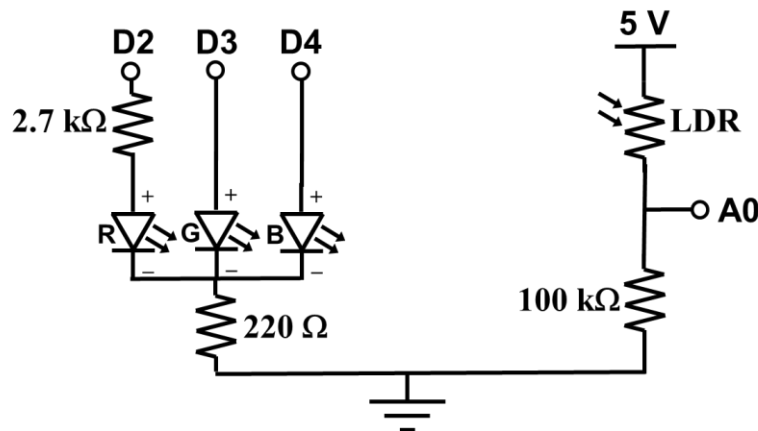

Figure 2. Colour sensor circuit consists of an LDR, a RGB LED and an Arduino Uno (ports shown).
Based on this principle, we will build a simple colour sensor which consists of an LDR, a tri-colour RGB LED lamp and an Arduino Uno, as shown in Figure 2. At intervals apart, the Arduino turns on one colour of the RGB LED lamp at a time that shines directly at an object. The LDR resistance varies according to the reflected light intensity it perceives, for each of the three colours shone. For each colour, the Arduino analog-to-digital converter (ADC) at port A0 reads in the corresponding voltage. The program then calculates and concludes by assigning a corresponding RGB colour code (e.g. 255, 255, 255 for white) based on its calibrated maximum light intensity ranges (one range for each colour, deduced from the intensity difference between the white and black samples) and the intensities (one intensity value for each colour) of the reflected colour lights from the object.
1. Construct the colour sensor circuit as shown in Figure 2. The LDR and the RGB LED should be placed close to but not obstructing each other. Particularly, take note that the **LDR flat top should not be covering the RGB LED and it should be slightly higher than the LED lens** on the breadboard to avoid being shone on directly by the LED.
2. Use the same colour sensor circuit as shown in Figure 2 and prepare the trays for support as before.